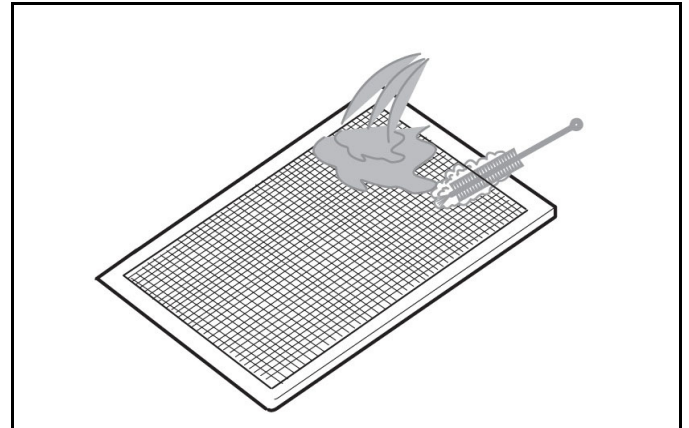

Figure 5-34
2. Shake off filter dust. Using a brush, wash it thoroughly with water. Figure 5-34. (After washing dry the filter)